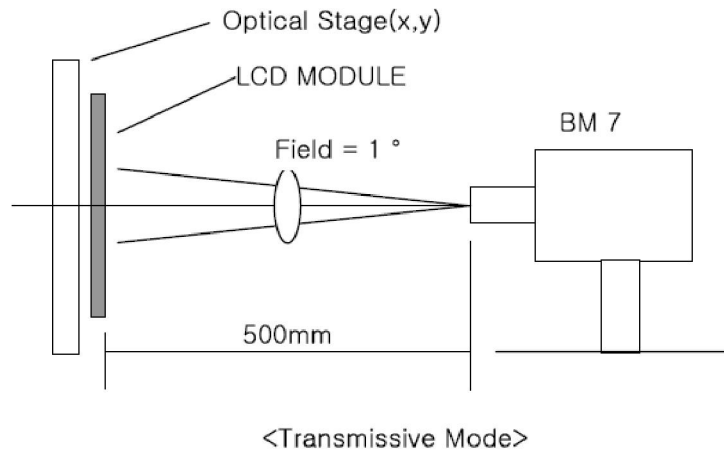

FIG. 1 Optical Characteristic Measurement Equipment and Method
2. Surface luminance is the center point across the LCD surface 500mm from the surface with all pixels displaying white. For more information see FIG 1.